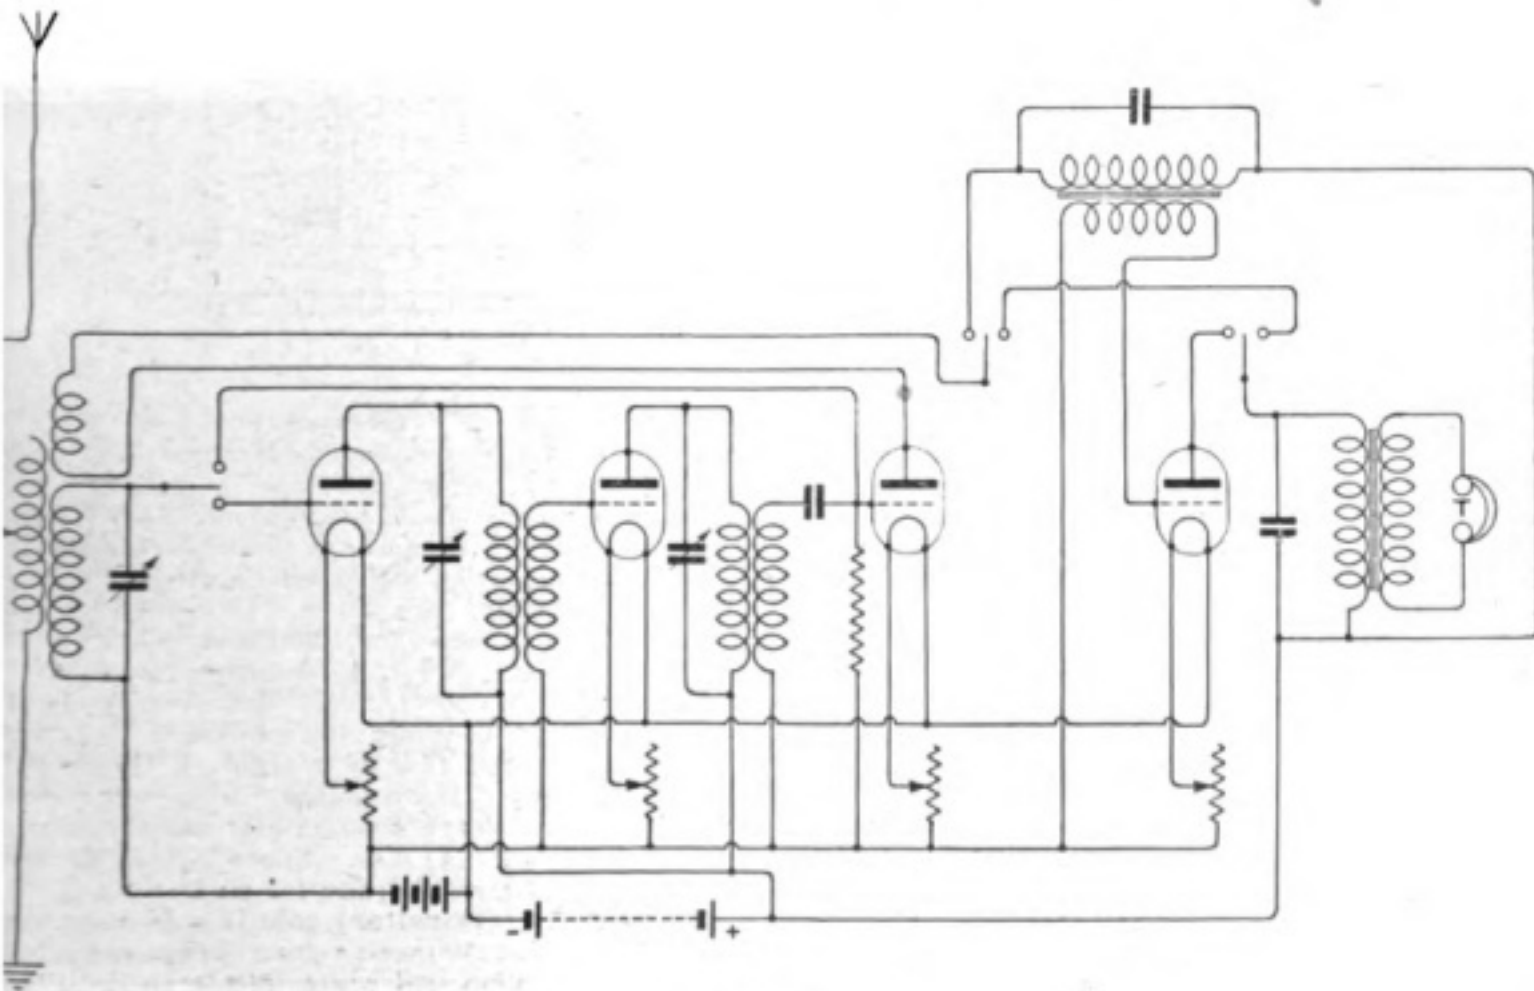

Fig. 6.
(1) The circuit shown in the diagram will be satisfactory. The circuit will be more selective if a coupled circuit is used as shown in Fig. 6. (2) Yes.